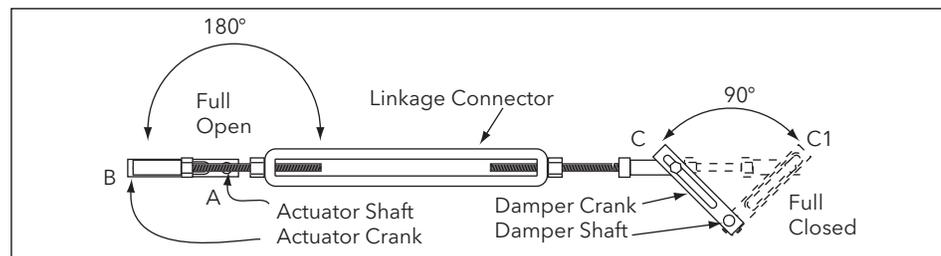

Figure 2. Linkage installed
3. Mount the crank arm on the driven shaft so that the location of the linkage connector in full closed and full open positions (points C1 and C) will fall on a straight line through the center of the actuator shaft. See Figure 2.